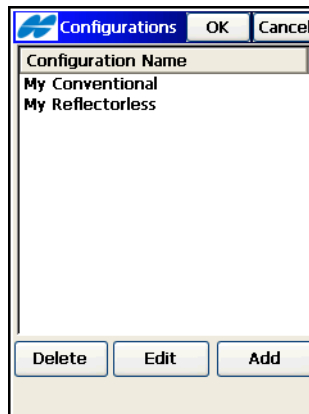

Figure 4-80. Contractor Mode Configurations
2. In the TS Configuration field of the *Select Survey Config* screen choose one of the pre-defined configurations or tap the browse button to create a new configuration or edit an existing one. The *Configurations* screen displays a list of available TS configurations. Only two configurations, Conventional and Reflectorless, are supported in the contractor mode (see Figure 4-80 on page 4-62).